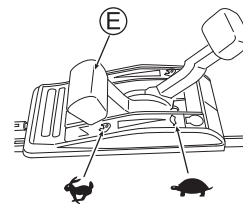

Fig. 13
- Confirm that there is no person behind you when pulling Starter knob (V).
- Securely grab Starter knob (V) when you pull it.
- Return Starter knob (V) slowly.
- 5 Warm up the machine before use. After the engine has warmed up, start mowing by setting Throttle lever (E) to "I\|". (See Fig. 13)